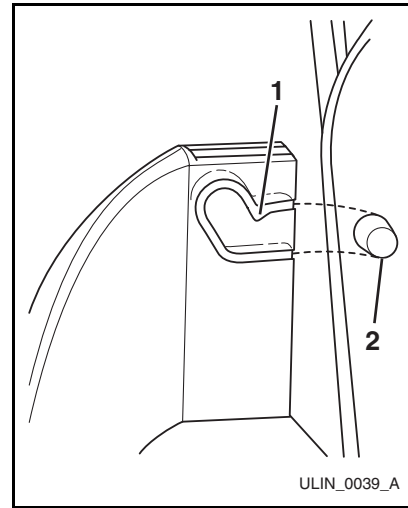

Figure 25
2. Carefully pull shelf off bosses (**Figure 25, 2**).
1. Holding shelf in center, align notches (**Figure 25, 1**) in shelf with bosses (**Figure 25, 2**) in door.